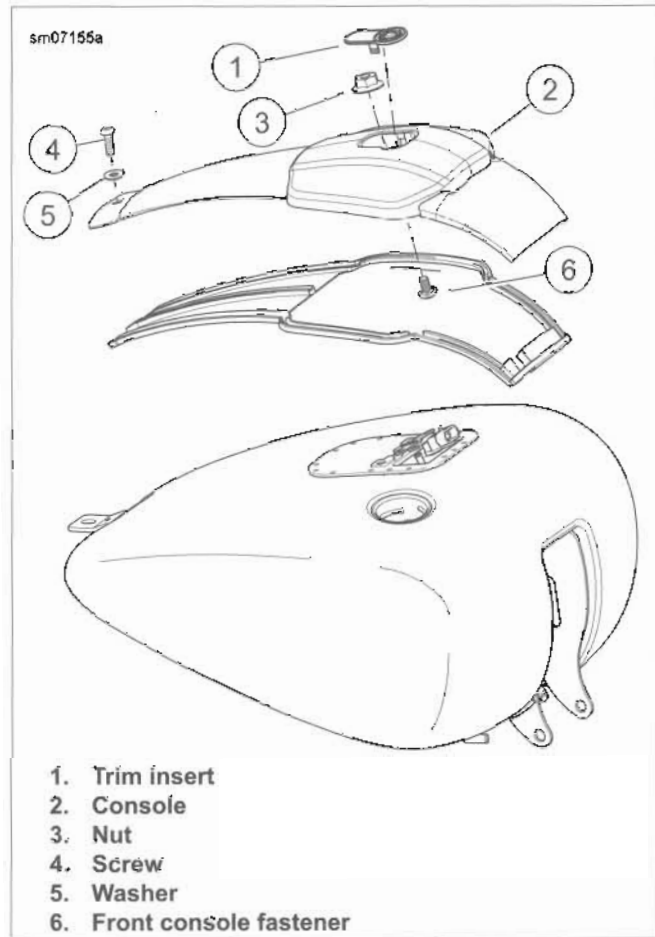

Figure 4-12. Console
2. See Figure 4-12. Remove trim insert (1) from console (2).
3. Remove nut (3) from front of console.
4. Remove fastener (4) and washer (5) from rear of console.
2. See Figure 4-12. Install washer (5) and screw (4) to rear of console. Tighten screw to 18-22 ft-lbs (24.4-29.8 Nm).
4. Install trim insert (1) on console (2).